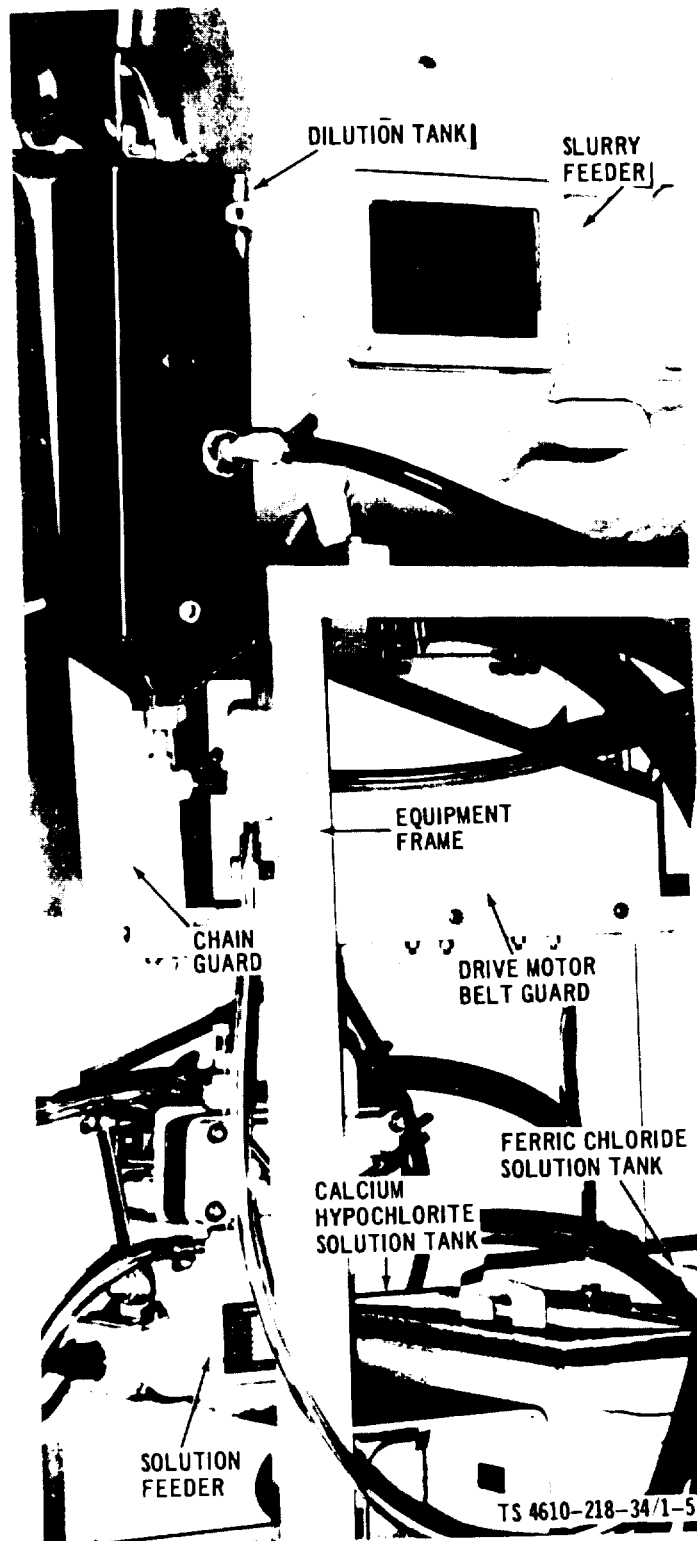

Figure 1-5. Chemical Feed Equipment, Installed.
(1) *Chemical slurry feeder.* The chemical slurry feeder (fig. 1-5) consists essentially of an aluminum tank divided into two equal watertight compartments. The two compartments are covered with one hinged cover. Each compartment has four agitators with two measuring cups attached to diametrically opposite agitators, a clear-plastic window, drain outlets, collecting funnel, filling connection, and rate-of-discharge controller. The chemical slurry feeder agitators operate from a common shaft and rotates vertically. Each compartment functions as a separate unit, permitting two different chemical solutions to be fed at the same time. The chemical slurry feeder tank supplies pulverized limestone slurry (coagulation aid) to the erdlator tank and diatomite slurry to the diatomite dilution tank.
(3) *Chemical slurry feeder speed reducer.* The chemical slurry feeder speed reducer (fig. 1-5) is mounted on the second shelf of the chemical feed equipment frame. It reduces the speed from the slurry feeder drive motor to the feed agitator. The ratio is 60 to 1.